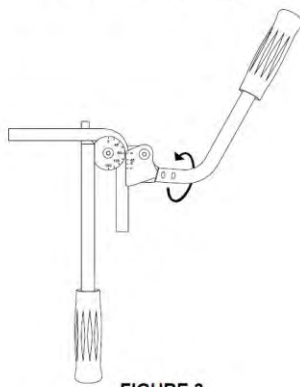

FIGURE 3
6. For ease in completing bends greater than 90° (180° max.), reposition the swivel handle by rotating counter-clockwise as shown in Fig. 3. An over center position automatically locks the swivel handle in place when bending force is applied.